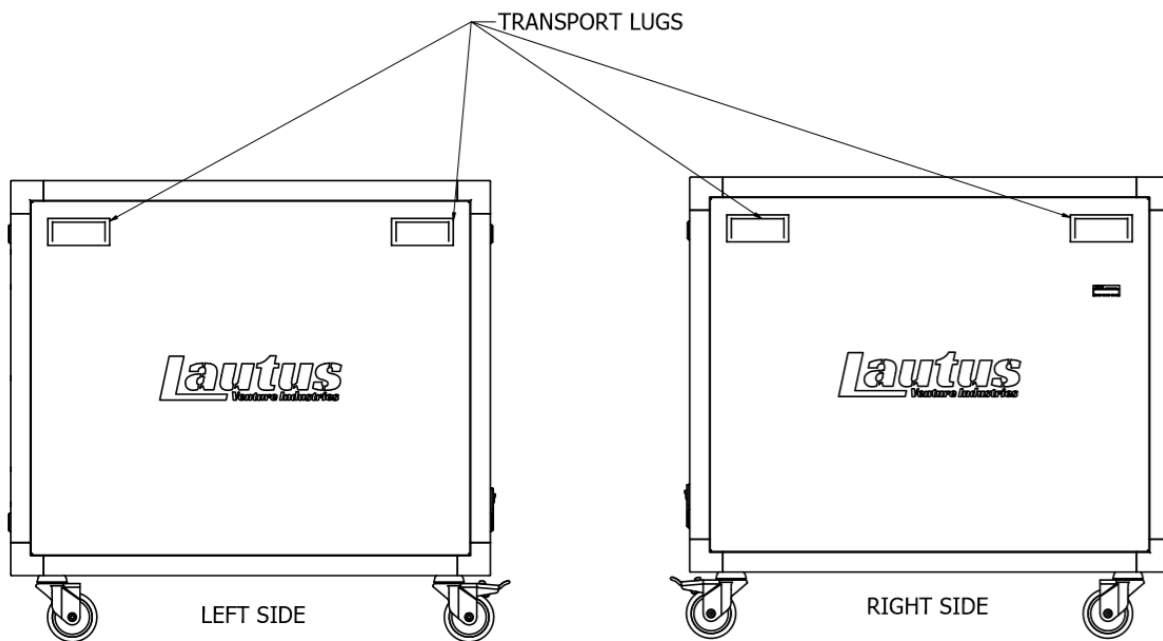

Fig. 1 Transport lugs
- The device should be lifted by housing elements and handles intended for this purpose. Do not lift the equipment by the power cords, intake, exhaust, or switches. The machine must be stable during lifting [Fig. 1].